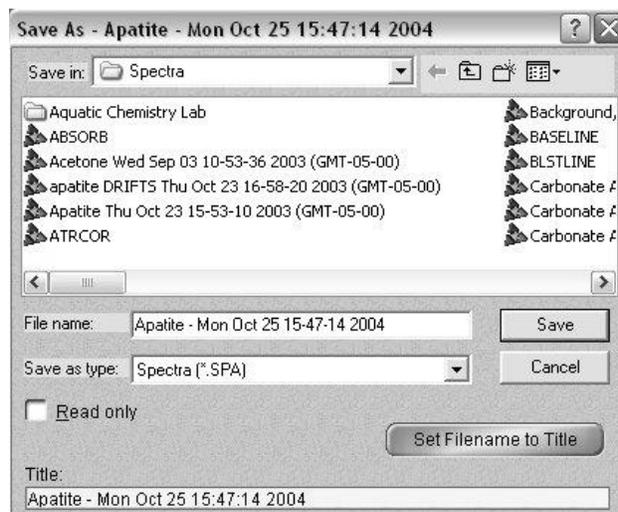

Figure 16: *Save As* window.
6.h. Save the spectrum by clicking the *Save* icon. As seen in Figure 16, the *Save As* window will open. Note that if multiple spectra are open in a window, you will need to click on the desired spectrum before clicking *Save*.